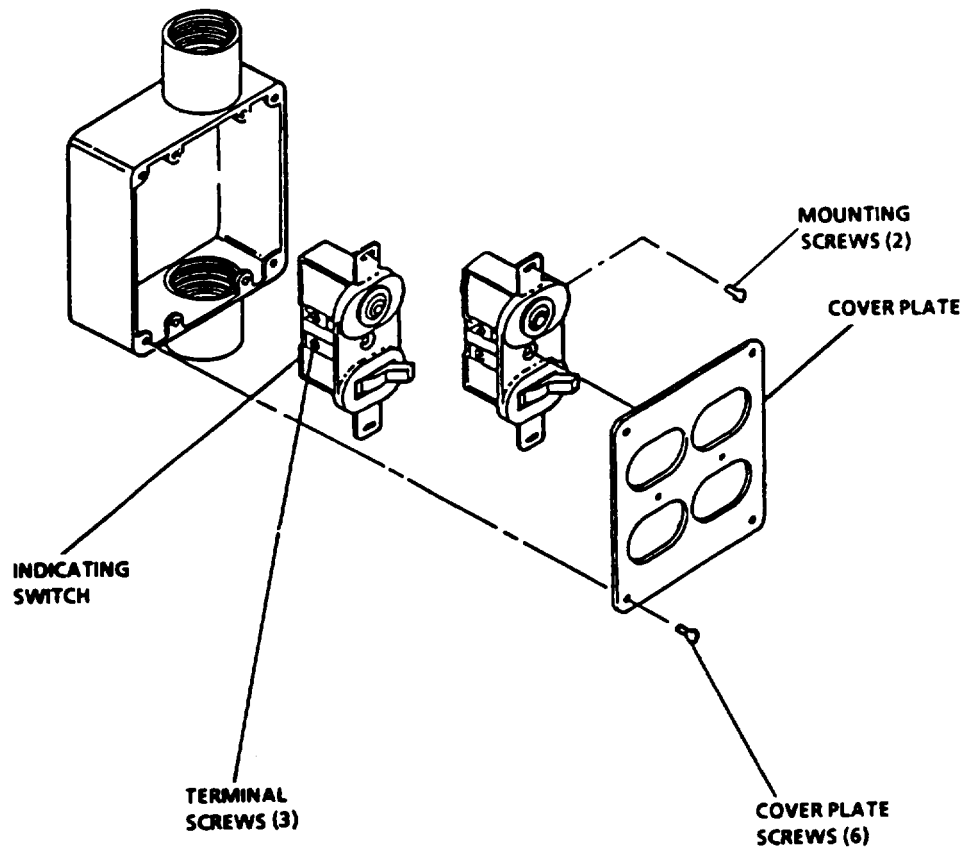

Figure 4-13. Multi-Gang Switch
3. Install light/blackout override switch. See figure 4-13.